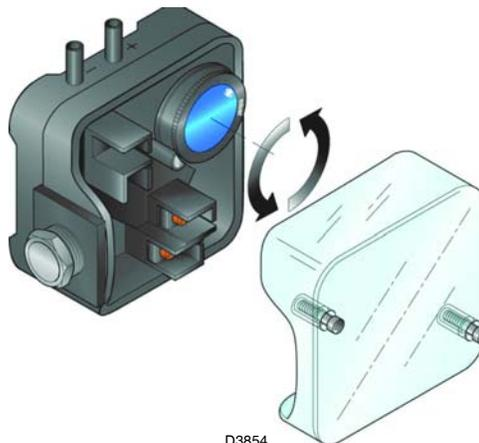

Fig. 35
- Adjust the air pressure switch (Fig. 35) to the start of the scale.
Adjust the air pressure switch after having performed all other burner adjustments with the air pressure switch set to the start of the scale (Fig. 35).